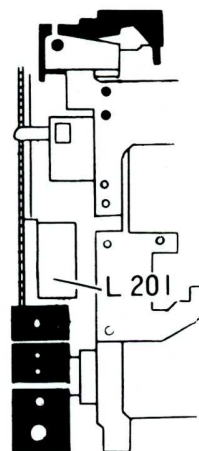

Fig. 60
- c. Adjust L201 so that the wave form on the oscilloscope or the indication on the VTVM is minimized. Set the sound volume and tone to their maximum positions. (See Fig. 60.)